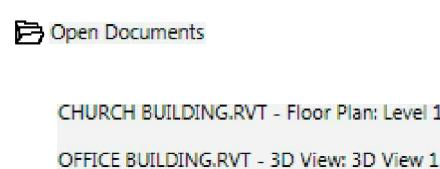

FIGURE 1-3.6 Open Documents
8. Click **Open Documents** from the *File Tab* (Figure 1-3.6).